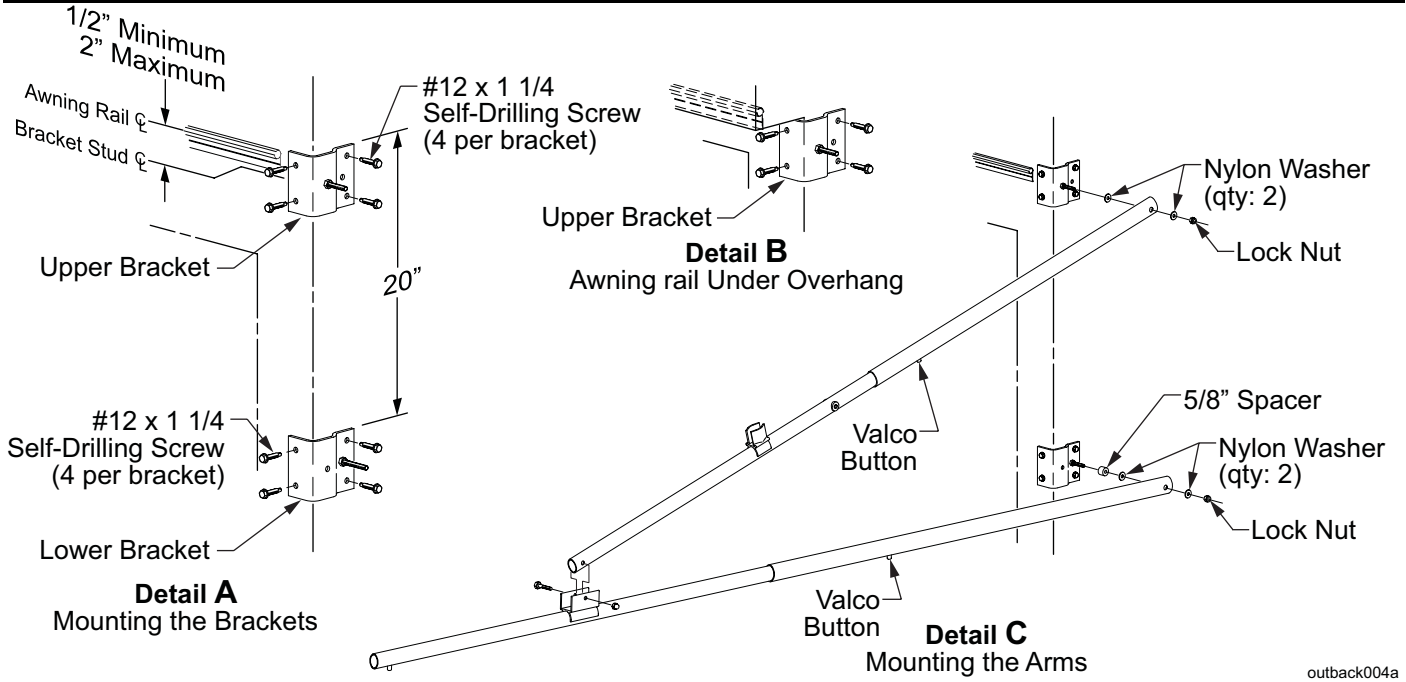

Figure 2. Mounting the Arms.
(Refer to Figure 2 on page 2)
1. Separate and identify the upper and lower arm mounting brackets. Note the position of the bracket stud as shown in Figure 2 on page 2.
4. Attach the upper bracket using four (4) #12 x 1 1/4 self drilling screws.
6. Attach the lower bracket using four (4) #12 x 1 1/4 self drilling screws.